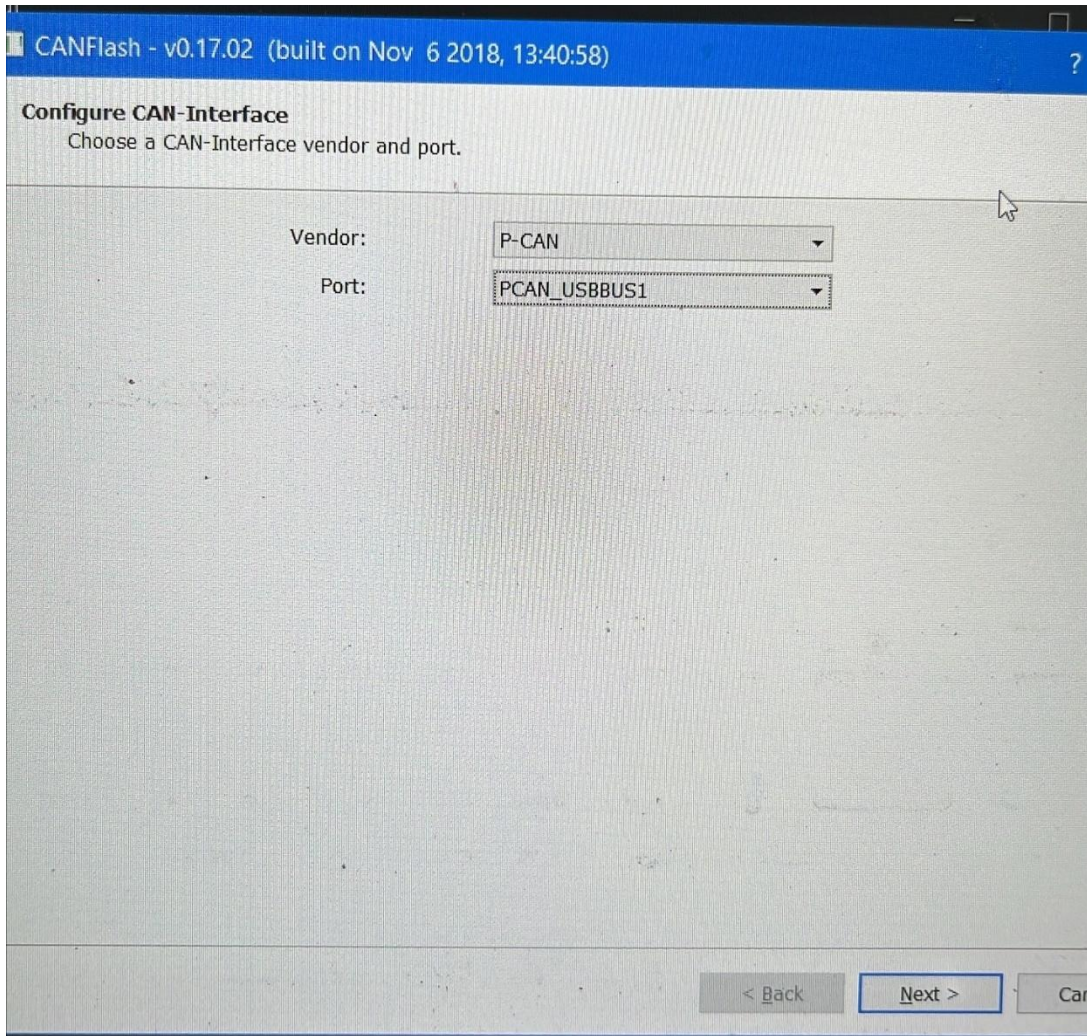

Figure 17: CANFlash PCAN settings
53. Once CANFlash is open select **P-CAN** under the Vendor drop-down menu. Select **PCAN_USBBUS1** under the Port drop-down menu (see figure 17). It's important to ensure the physical connection to the laptop matches the same port as dictated by the CANFlash setup. Click **Next** when complete.